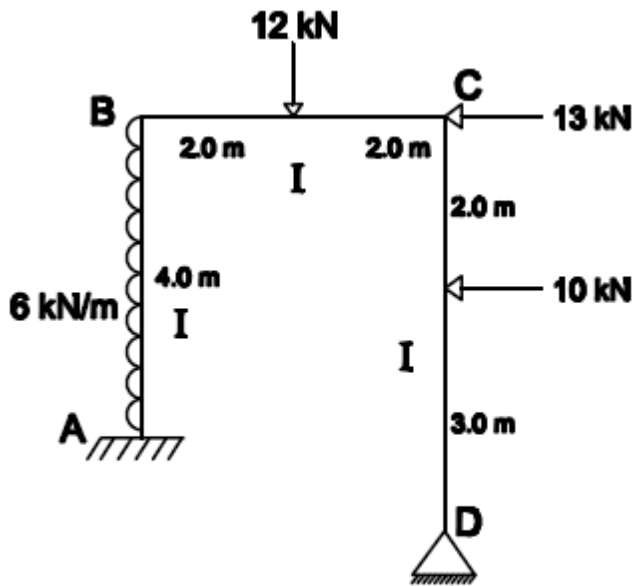

Figure 8
8. Analyse the following frame a [Figure.8] using stiffness Method. Also draw B.M.D. [14 M]